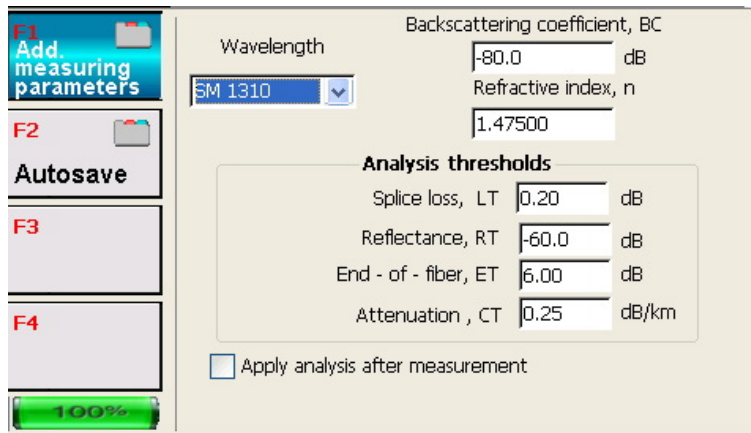
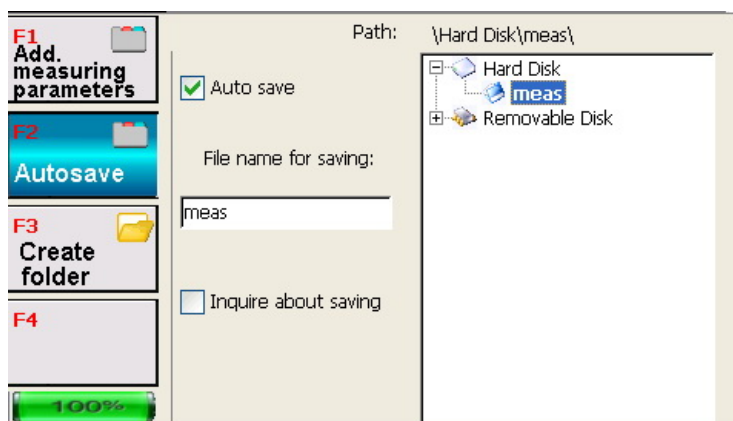
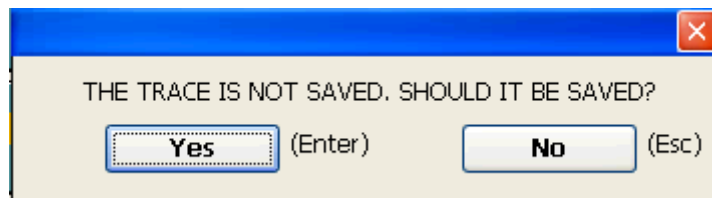

Figure 7.4
Figure 7.6
Figure 7.7
7.3.2.1 When you press the button **F3** →  the window of additional measuring parameters shown in **Figure 7.4** will become activated.
7.3.2.3 Measurement and automatic analysis parameters shown in **Figure 7.4** have the following values.
of this function, press the button **F2** →  in the window for additional measurement parameters (see **Figure 7.4**) – the window shown in **Figure 7.6** will become activated.
7.3.3.4 In the right part of the window shown in **Figure 7.6** the user should indicate the path to the file in which the traces will be automatically saved. The right part of the window is accessible only if the symbol $\sqrt{}$ is put in the line “**Auto save**”.
If the mode of automatic saving is not switched, but the symbol $\sqrt{}$ is put in the line **“ Inquire about saving”** in the window shown in **Figure 7.6**, the program will propose to save the measurement after the measurement completion – see **Figure 7.7**.